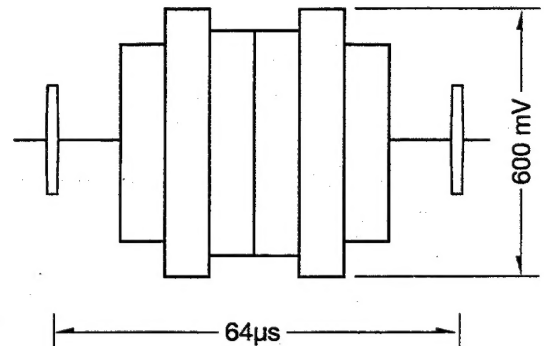

Fig. 9
4. Adjust T802 to the waveform max ($\sim 800\text{mV p-p}$) and then advance, to achieve the waveform for about 600mV p-p , as showed in Fig. 9.